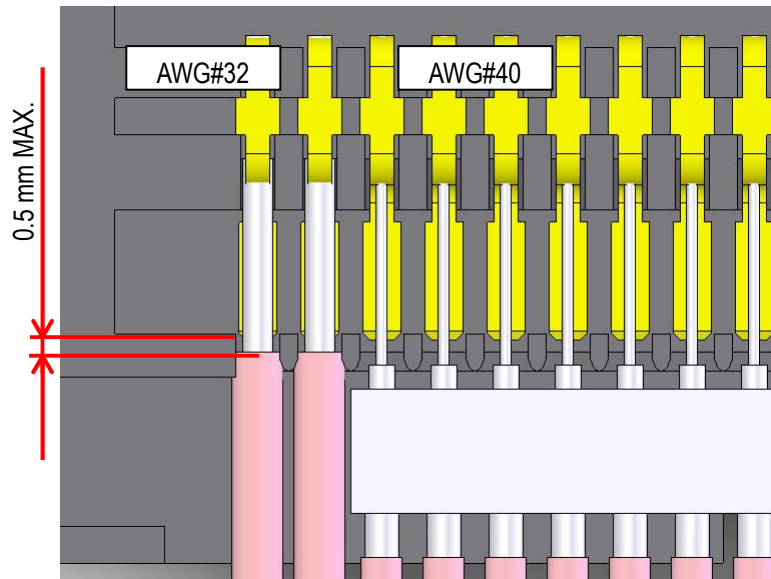

Fig.3 AWG#32, #40
④ Center-conductors are soldered with pulse heater. See Fig .3 of soldering condition.